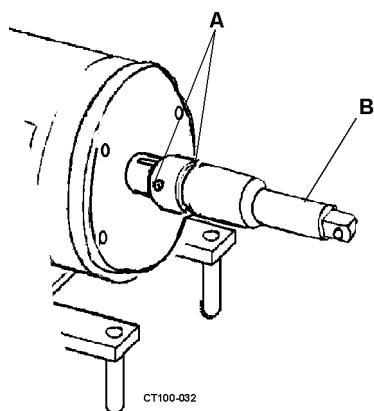

Figure 21 - Stub Shaft Removal
3. Loosen the two setscrews securing the stub-shaft to the motor shaft (see Figure 21, items A and B). Carefully remove the stub-shaft. The stub-shaft is a tight fit, but can be removed by applying pressure around the periphery of the shaft with a pry bar.